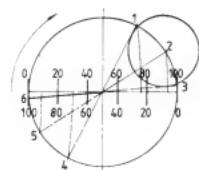

Fig. 6d
TABLE 2 VALVE EVENT TIMING (Fig. 6d)
7. Percentage Piston Travel. The percentage of piston travel at each of the main valve events can be readily determined by accepting that the valve travel circle can also represent the crank arm travel, albeit to some other scale (i.e. AB represents the stroke). The actual scale is not important providing the template used to determine percentage of travel as in Figure 4c, is correctly radiused at 'n' times the valve travel circle diameter i.e. for this example at $3\frac{1}{2} \times 2\frac{1}{2}$ inches = 8.75 inches radius. With AB divided into 10 equal spaces and drawing the arcs through points 1 to 6 as in Figure 6d, the percentages of piston stroke completed at each of the valve events for inwards and outwards strokes can be readily estimated. Table 2 shows the required information for this example.